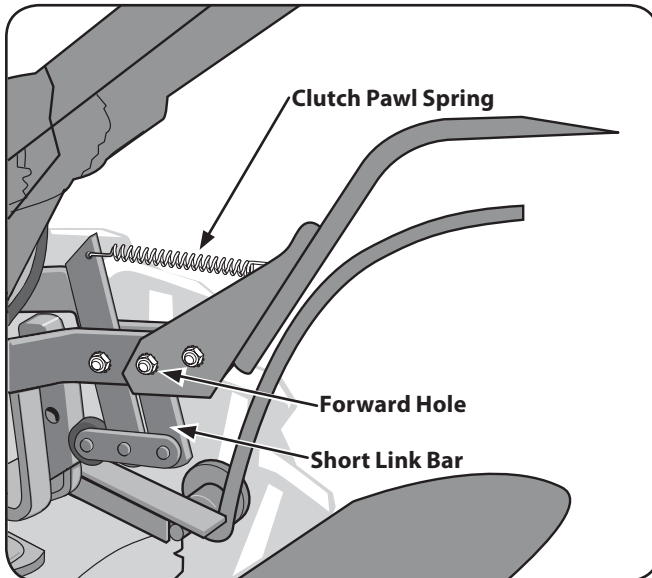

Figure 3-10
6. Pull the Wheels/Tines/PTO Lever back to align the forward most holes in the yoke plate with the holes in the lever plates. Also align the bushing that is inside the short link bar. Install the screw, star washer, and nut, then tighten securely. Securely tighten all other hardware. Also ensure that the spring is properly seated at both ends. Completed assembly should appear as illustrated in Fig. 3-10.